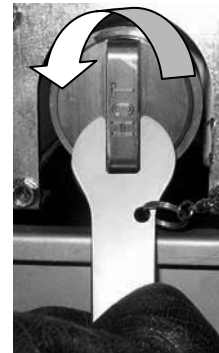

Figure 1
1. Wearing protective gloves use the supplied wrench to remove the cap from the pre-filter (**Figure 1**).